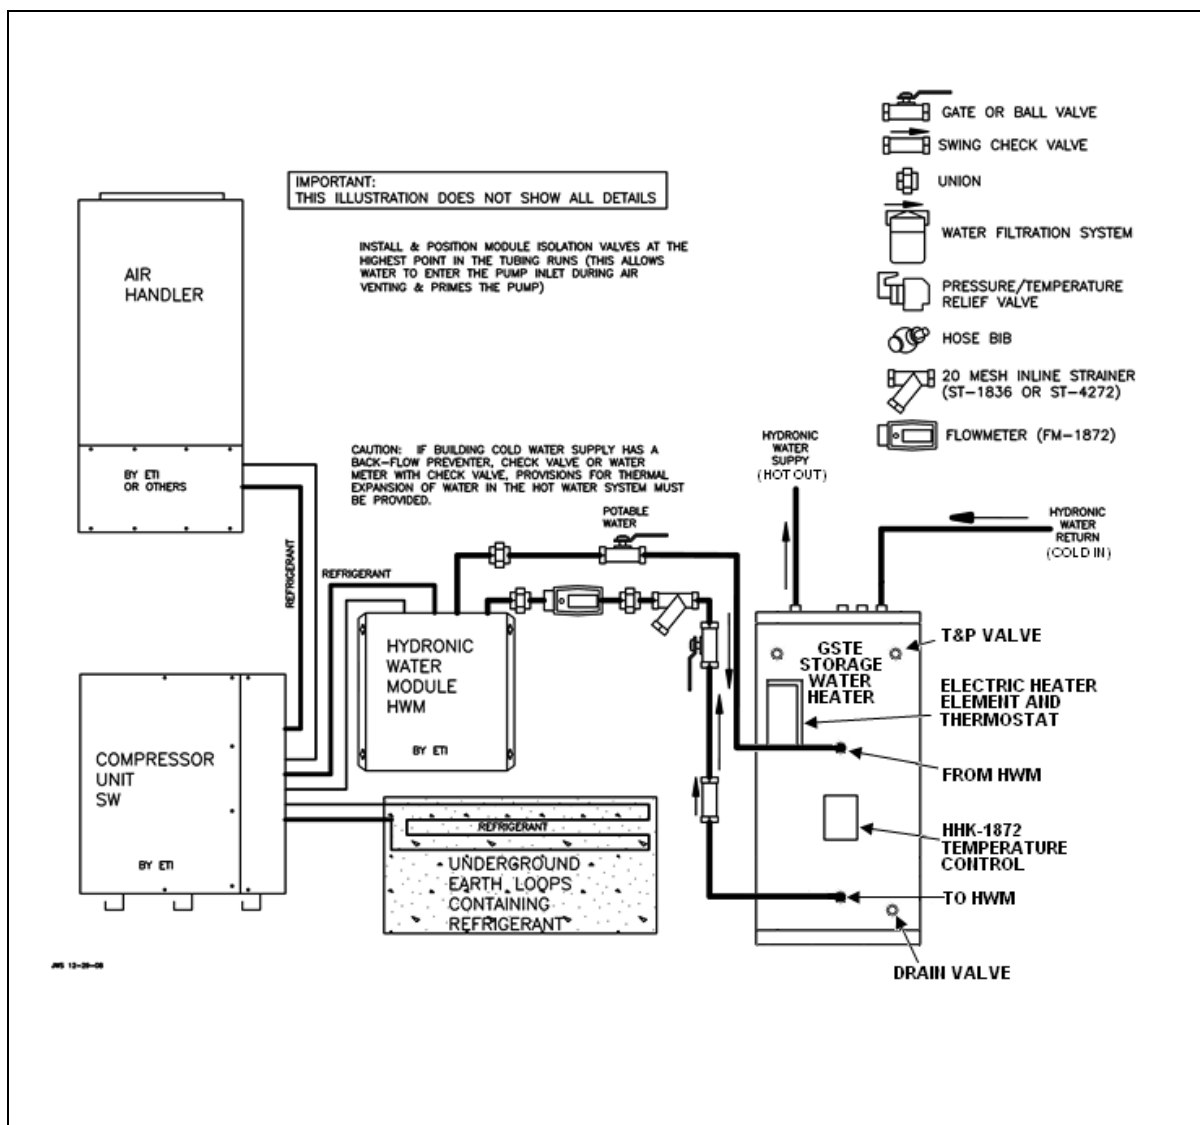
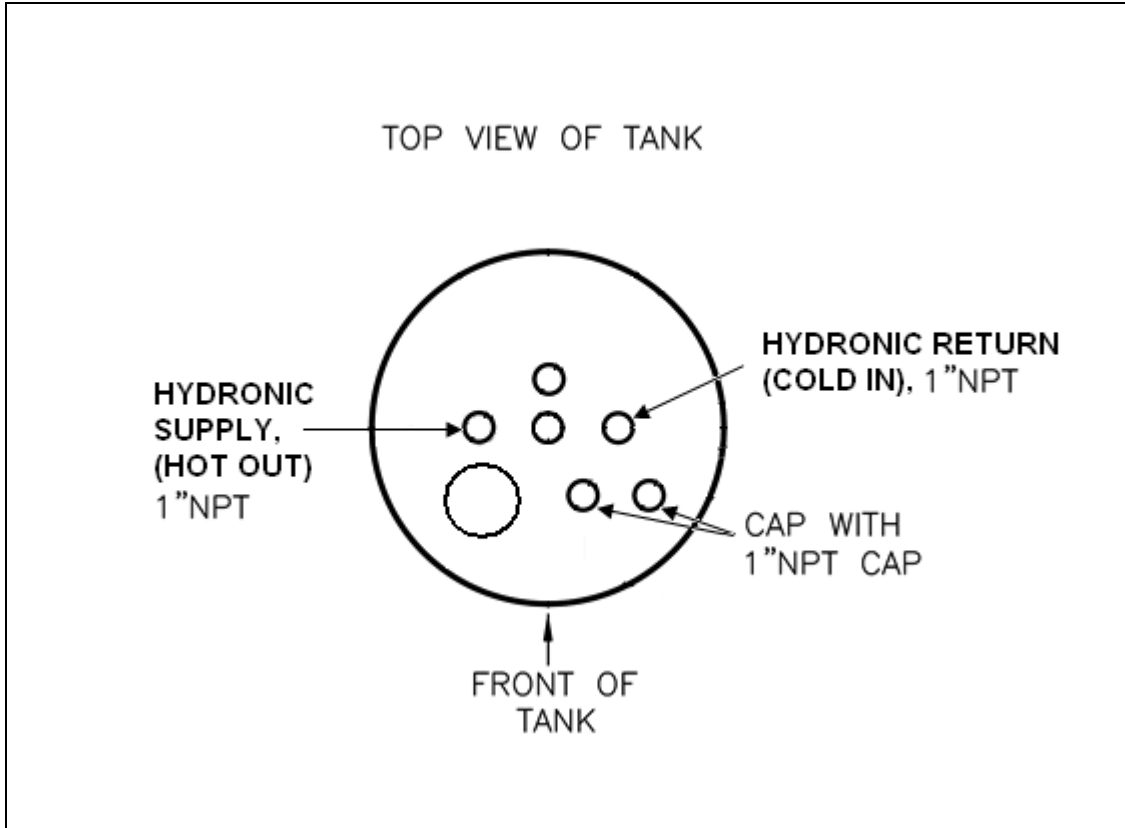
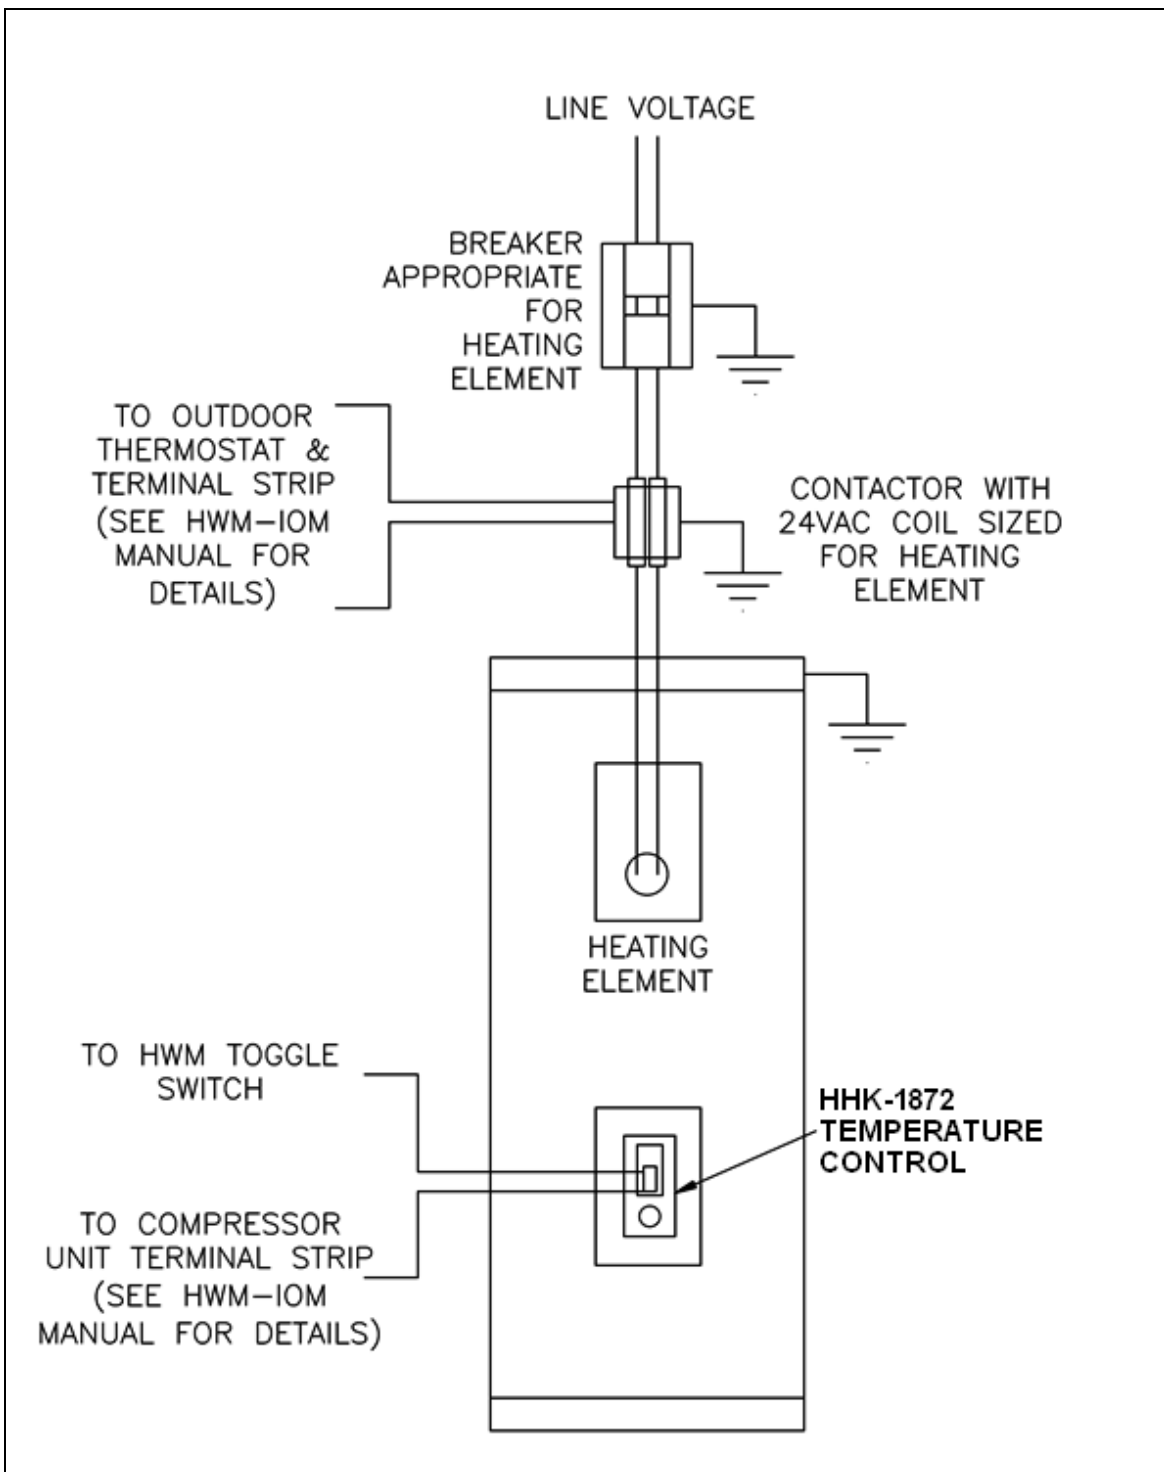

Figure 5a. Hydronic Heating (HWM) Application
Figure 5b. Top of Tank – Hydronic Heating (HWM)
Figure 5c. Electrical Field Wiring – Hydronic Heating (HWM)
- Figure 5a. Hydronic Heating (HWM) Application 15
Figure 5a illustrates the installation of a GSTE storage water heater with the Hydronic Water Module (HWM) providing heated water (only) to a hydronic system. Location of the storage water heater from the HWM is to be no more than 10 ft. apart. Water piping and fittings between the HWM and the storage water heater are to be 1" Type L copper for model HWM-1836, and 1-1/2" Type L copper for models HWM-4248 and HWM-6072. Detail for the ports and connections on top of the tank are illustrated in Figure 5b. The electrical field wiring for the HHK-1872 temperature controller and the electric heater element and thermostat are illustrated in Figure 5c.